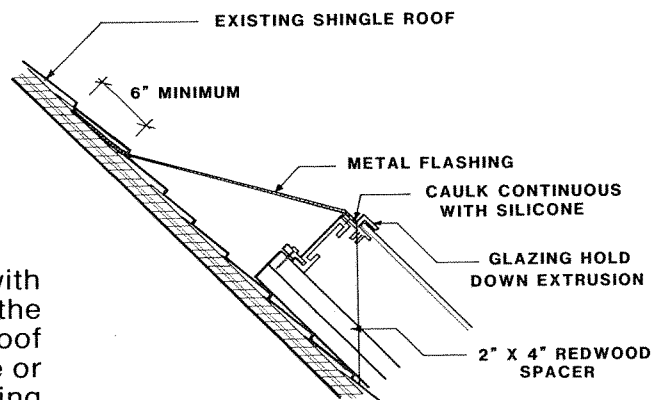

Figure 2.19
- If the slope of your roof is compatible with the collector tile angle, you may flash the upper end of the collectors to keep the roof surface under the collector dry and free of debris. Refer to Figure 2.19 for flashing installation.